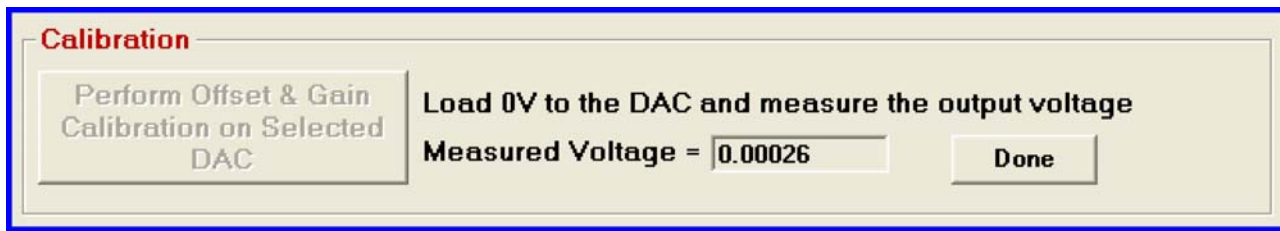

Figure 3.
2. In the **Calibration** section, click the **Perform Offset & Gain Calibration on Selected DAC** button. The calibration section display changes as shown in Figure 3.